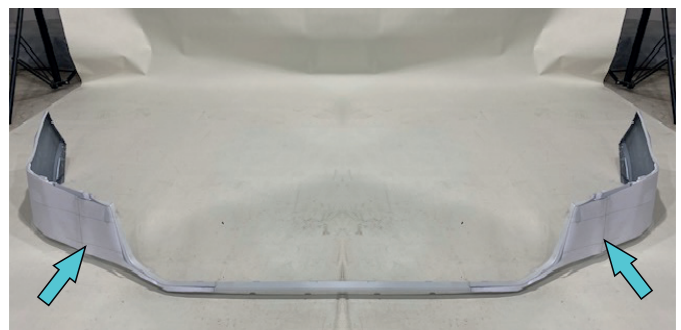

Fig.42
42. Prepare templates (item 25, 26) and stick it on OE bumper, as shown in fig.42.